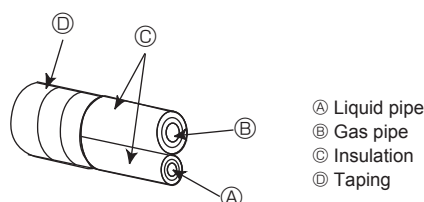
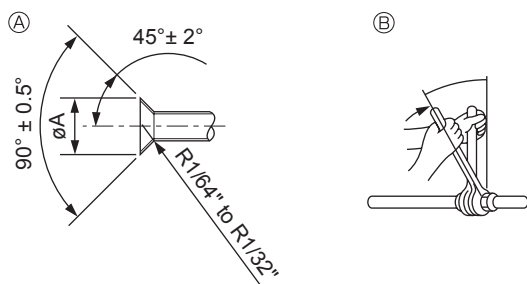

Fig. 4-2
Fig. 4-3
A (Fig. 4-3)
4.3. Connecting pipes (Fig. 4-2) (Fig. 4-3)
- [Fig. 4-3]
- ① Pipes must be connected starting from the indoor unit.